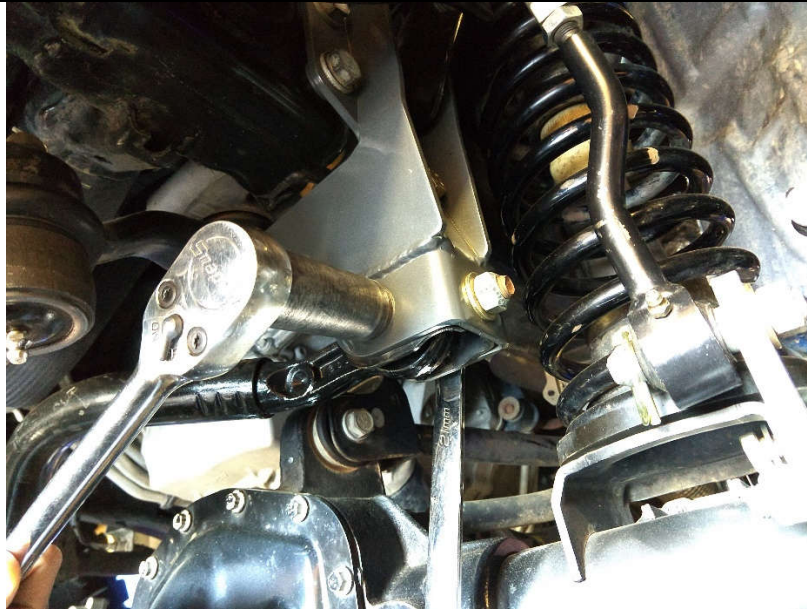

Figure 3. Removing the Track Bar from the Frame Side
3. Using a 21mm socket and wrench, loosen, then unbolt the frame side track bar bolt taking care to support the track bar before you pull the bolt all the way out. Completely remove the stock track bar. Save the stock hardware, it will be re-used. See **Figure 3**.